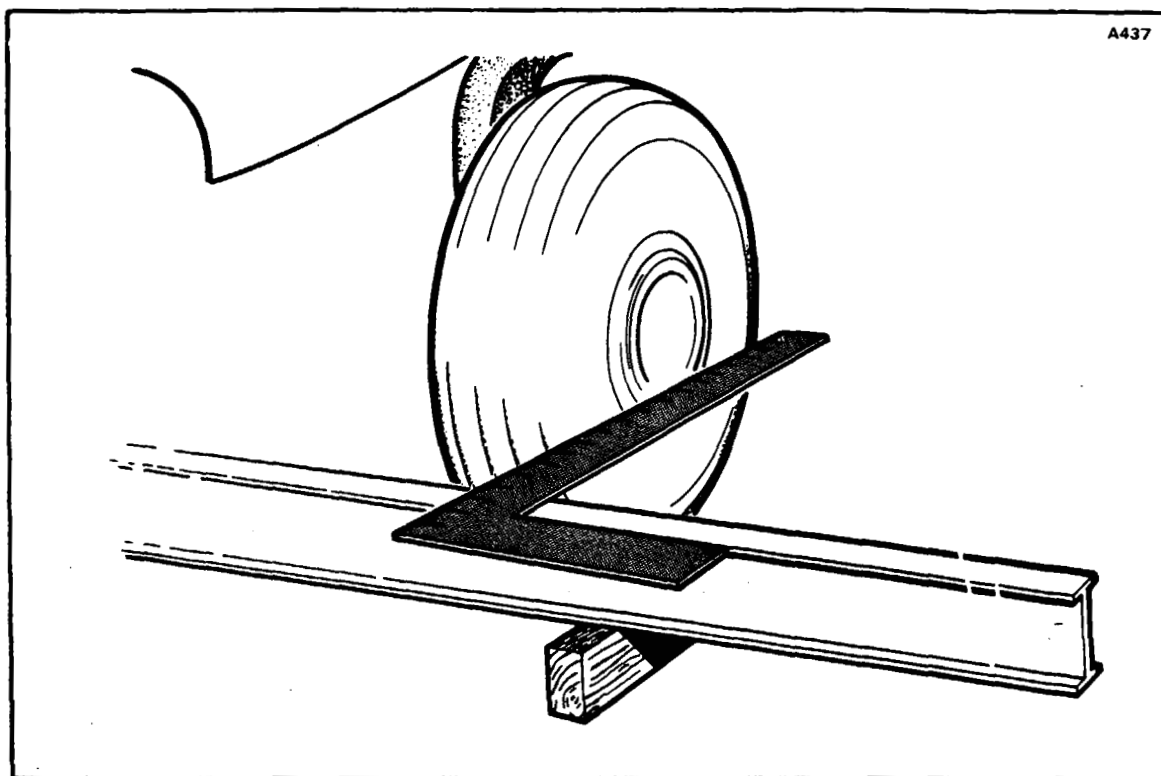

Figure 7-12. Aligning Main Gear
b. Set a square against the straightedge and check to see if its outstanding leg bears on the front and rear sides of the tire. (Refer to Figure 7-12.) If it touches both outboard sides of the tire, the landing gear is correctly aligned. The toe-in for these wheels is 0 degrees.